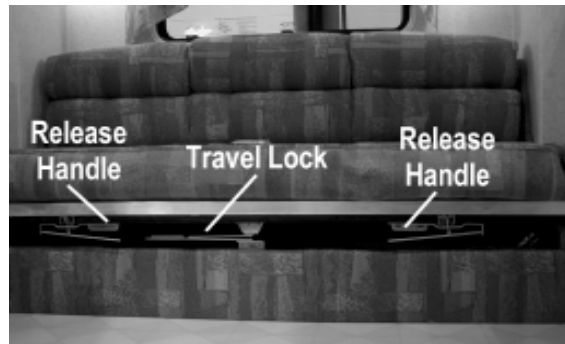

Fig. 3-6
2. Release second travel lock (Fig. 3-6) located below the sofa.
3. Lock bottom travel lock. (Fig. 3-6)